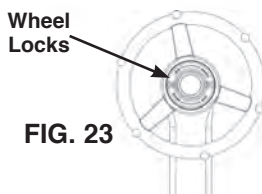

**FIG. 22**
**FIG. 22-** Place mobile bracket onto the kneepad bracket. Place kneepad onto the mobile bracket. Insert three bolts into the back of the kneepad. Tighten bolts securely. Remove bolts from mobile bracket. Flip down kneepad and align bracket on mobile assembly. Tighten bolts and nuts securely with 13mm wrench and hex wrench. Repeat steps on the opposite side before continuing to the next step.